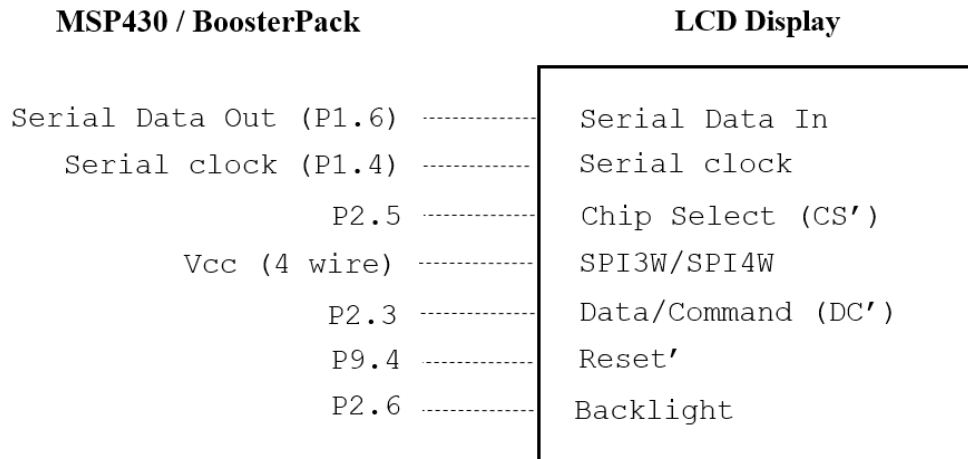

Figure 9.1: BoosterPack's Pixel Display Interface
The interface between the display and the MCU/BoosterPack is shown in Figure 9.1. The first three pins on the display are the SPI pins. There's no Serial Data Out (MISO) pin since the display doesn't transmit back any information. The pin SPI3W/SPI4W is connected to Vcc on the BoosterPack, which means the SPI interface has four wires (it uses the Chip Select pin). The Data/Command (DC) pin is used to label each byte that's received via SPI. The software driver sets the DC pin to 0/1 to indicate that the byte being transmitted over SPI is either a command byte or a data byte, respectively. The Reset pin is